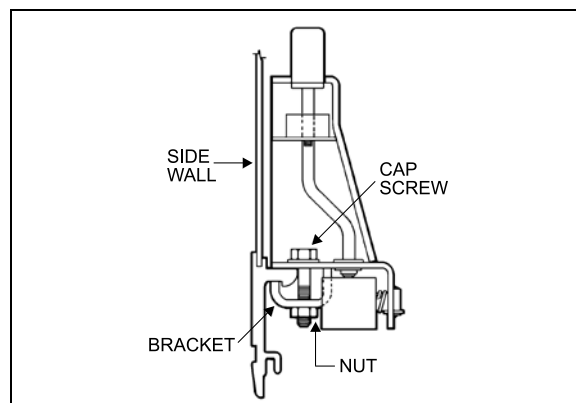
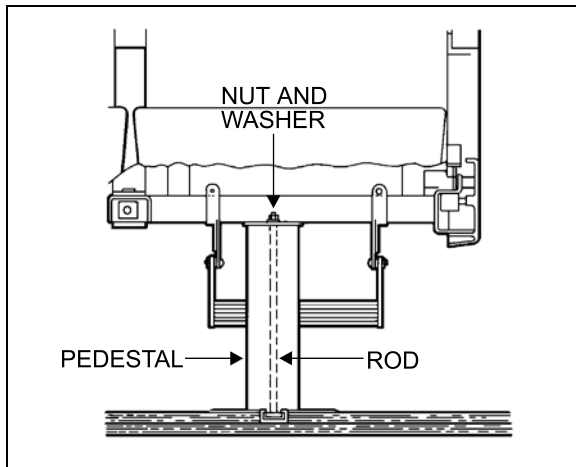

FIGURE 36: SIDE WALL MOUNTING
FIGURE 37: SEAT PEDESTAL ASSEMBLY
4. Remove 2 cap screws, nuts, and washers holding seat frame to side wall and retain the 2 holding brackets. See Figure 36 and Figure 37.